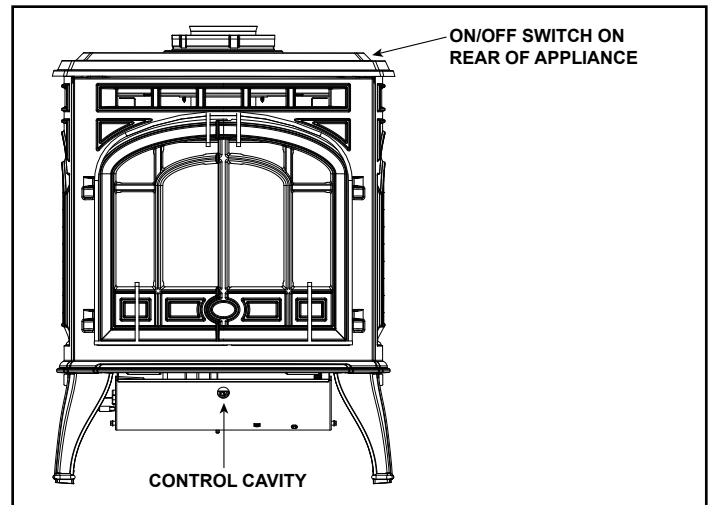

Figure 3.6 ON/OFF Switch/Control Cavity Location
1. Access the control cavity of the appliance. See Figure 3.6 for location.